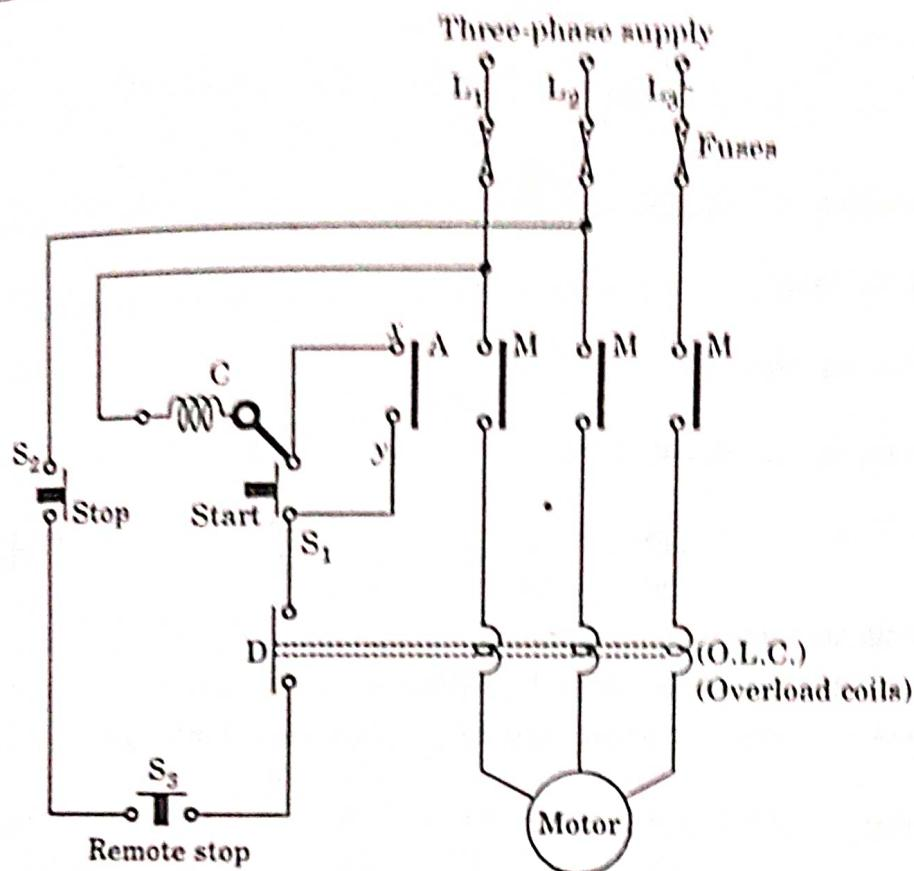

Fig. 4.3.1. Direct on-line starter.
- In the direct on-line method of starting, induction motor is connected by means of a starter across the full supply voltage. Connection diagram is shown in Fig. 4.3.1.